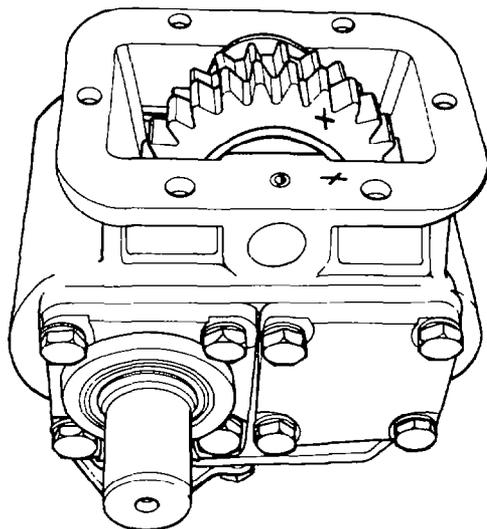

Fig. 397 — Match Marking Drive Gear and Housing
- a. Match mark the PTO drive gear and housing (see fig. 397).